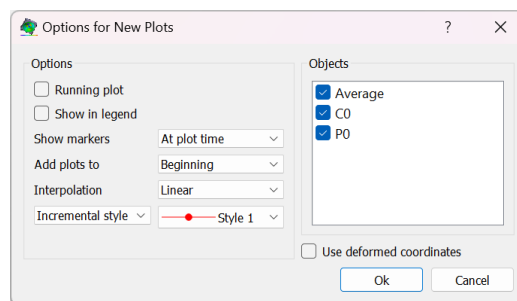

Figure 23.15: Multi series dialog for point extractions.
- For the case of *point* (or disc, rectangle, etc.) extraction, the dialog in Fig. 23.15 is displayed. The desired extraction elements are selectable to the right, and other plot options to the left.